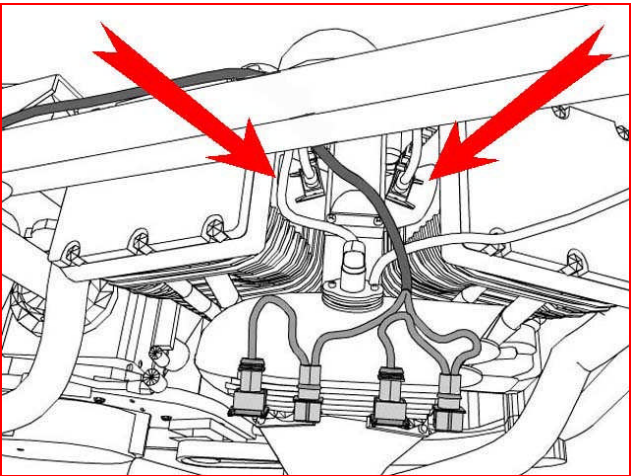

Figure 4
4. Underneath the fuel tank you will locate the fuel injectors (TOURING figure 4).